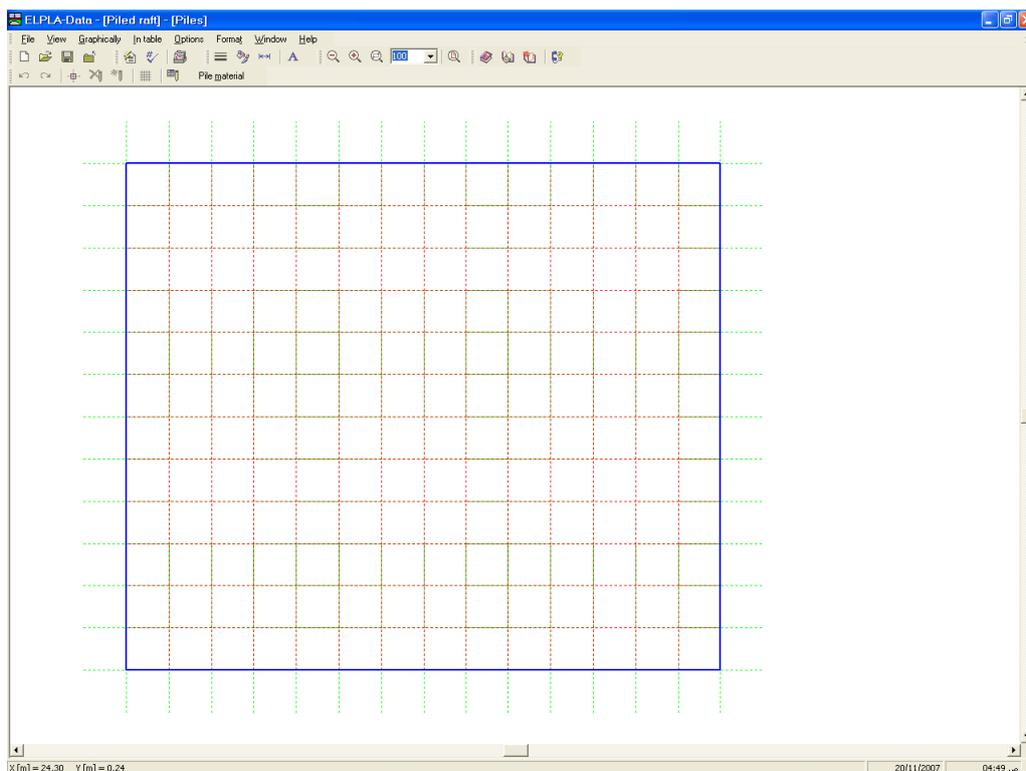
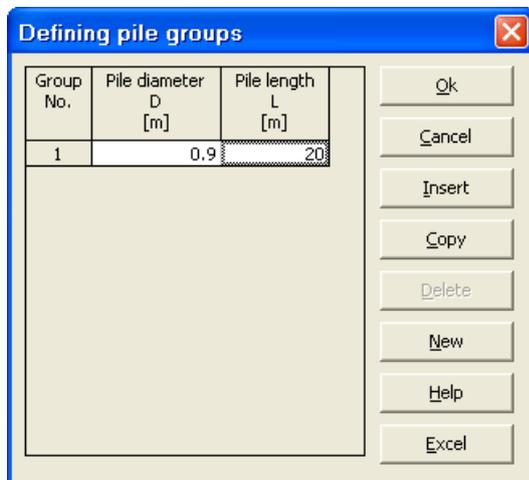
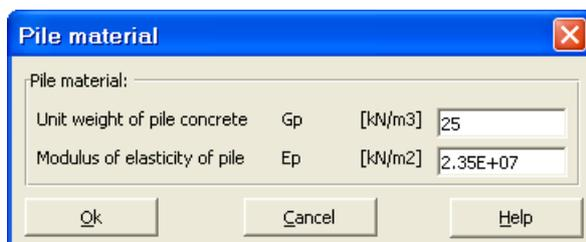

Figure 12-14 "Piles" embedded program
Figure 12-15 Defining pile groups
Figure 12-16 "Defining element groups" dialog box
To define piles, choose "Piles" command from "Data" menu of *ELPLA-Data*. The following embedded program in Figure 12-14 appears.
To define pile groups that have the same diameter and length, choose "Pile groups" command from "In Table" menu in Figure 12-14. When the "Pile" groups" command is chosen, the following table in Figure 12-15 appears allowing you to define the pile diameter and length.
To define pile material, choose "Pile material" command from "In Table" menu in Figure 12-14. When the "Pile material" command is chosen, the following dialog box in Figure 12-16 appears.
- Choose "Select nodes" command from "Graphically" menu in Figure 12-14